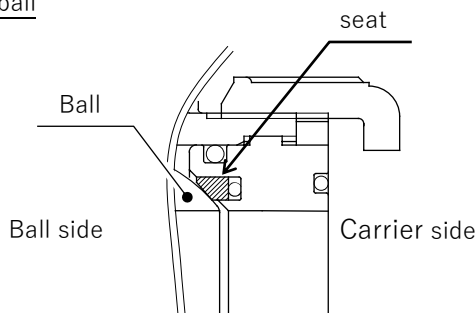

Figure 9.2-1
- 1) Attach the O-ring (E) with the larger cross-section diameter, then the O-ring (D) with the smaller cross-section diameter to the stem in that order.
- 2) Attach the O-ring (B) and O-ring (C) to the carrier.
- 3) Check the front and back of the seat and attach it to the carrier so that the side that fits with the ball faces the concave side. (**Figure 9.2-1**)